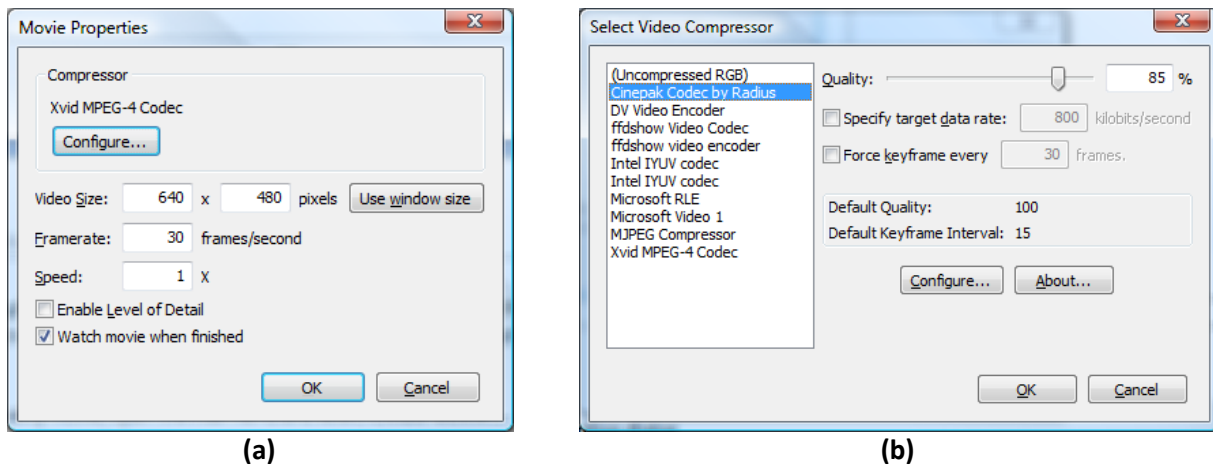

Figure 84: Movie option dialogs
Once the filename and type of video has been chosen, a dialog will show some movie making options as in Figure 84 (a). The options are as follows:
- **Compressor** shows which video codec is currently selected and allows the codec to be chosen and configured. If **Configure...** is pressed, another dialog will show as in Figure 84 (b). This dialog will show a list of the codecs currently installed on the computer. Some codecs allow certain properties, such as the **Quality**, **Data Rate**, and **Keyframe interval** to be specified. These properties control the resulting movie's quality, file size, and seeking performance (how well a movie can be skipped around in the video player), respectively. Some codecs do not expose these properties through this dialog, however. To configure these codecs, you must press the additional **Configure...** button if it is enabled.
To create a movie of this type, press the record button (⏺). A file chooser dialog will prompt for the file name of the movie. For real-time movies the only allowable type is WMV. Once the file name is chosen, the codec configuration dialog will be shown as in Figure 84 (b). When **OK** is pressed on this dialog, the movie will begin recording. At this point, anything the user sees will be recorded in the movie. Now the user can change the camera angle, start and stop playback, select occupants, change view settings, etc. and the movie will capture everything. At any time, the movie can be paused or stopped. Pausing the movie will stop the recording but leave the movie file open so that recording can be resumed to the same file. This allows the user to perform some action that they do not want to be recorded. To pause movie recording, press the pause movie button (⏸). To resume recording, press the resume movie button (⏪). Stopping the movie will end recording and disallow any further recording to the file. To stop recording, press the stop movie button (⏹).